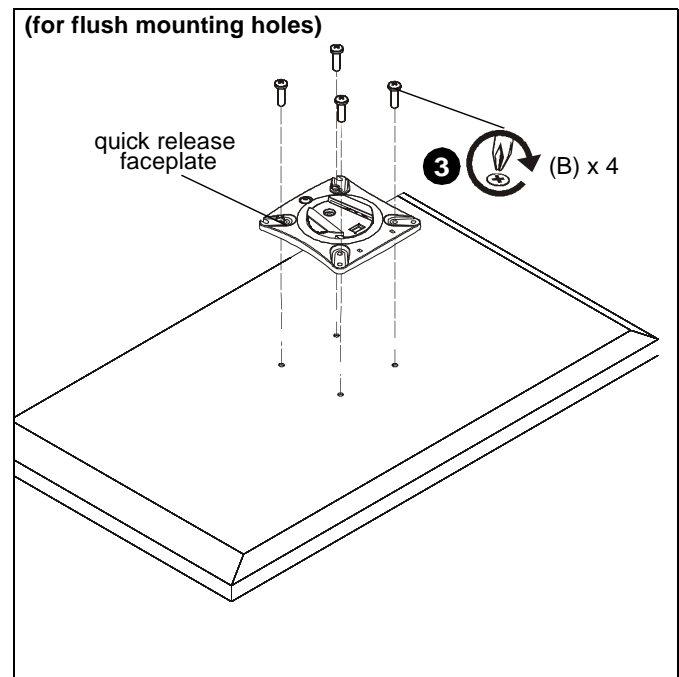

Figure 12
- Using Phillips screwdriver, carefully install four M4x14mm screws (B) through corresponding holes on faceplate and into the mounting holes on the display. (See Figure 12)